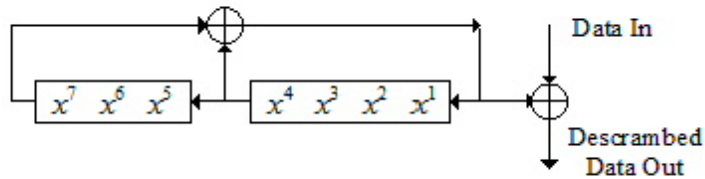

Fig.1 Data descrambler
1. This model can be used to descramble the DATA field, according to IEEE 802.11a standard. The structure is the same as scrambler, as shown in Fig.1. For details, please refer to the model SCRM11a.